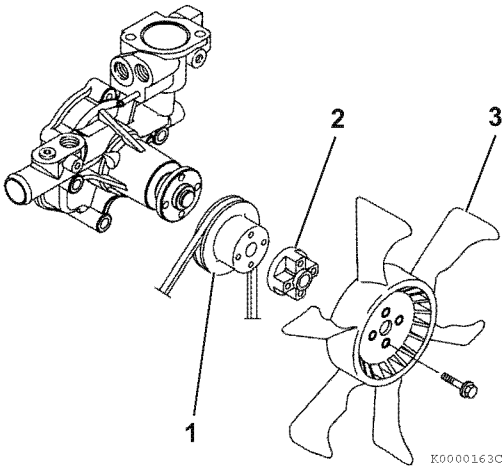

Figure 9-4
1. Remove the cooling water fan guard (if equipped), cooling fan (**Figure 9-4, (3)**), spacer (**Figure 9-4, (2)**), cooling water pump V-pulley (**Figure 9-4, (1)**), and V-belt.